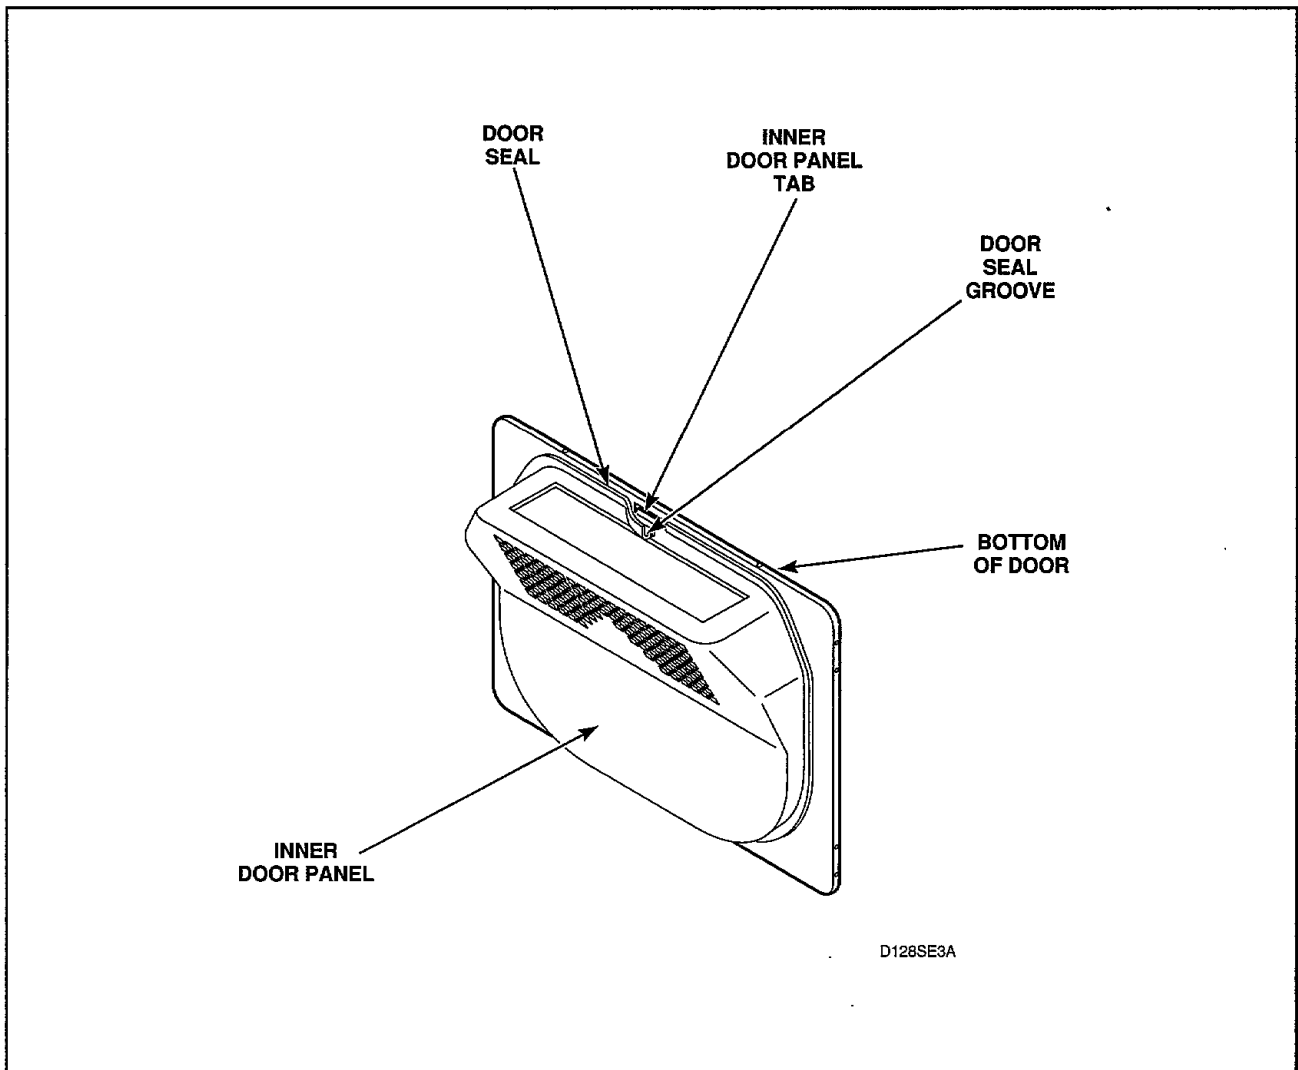

Figure 25
- Grasp either end of door seal at bottom of door and remove seal from tabs on inner door panel, *Figure 25*.
**NOTE:** When replacing seal, be sure seal is not stretched or distorted and the groove in the seal is installed on each tab on inner door panel, *Figure 25*, and the split in the seal is at the bottom of the door.